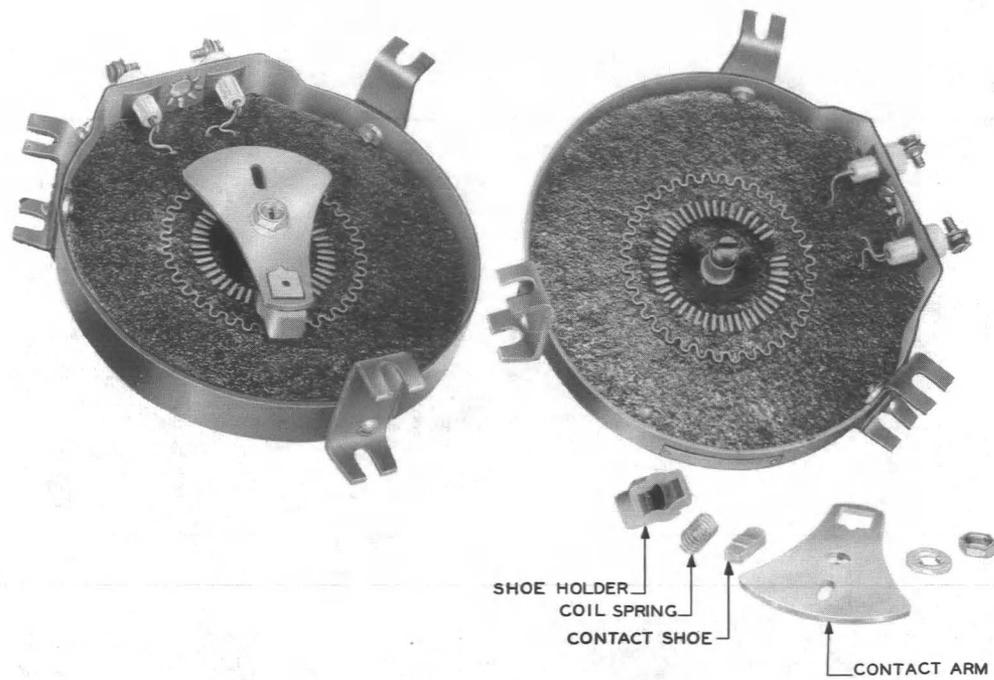

Fig. 4 - KS-15672 Rheostat — Balanced Contact Shoe Construction
1.09 Balanced Contact Shoe Construction: The KS-15672 rheostat shown in Fig. 4 has this type of shoe. In this rheostat the contact shoe, mounted in the contact arm, is held against the contact buttons and collector ring by a spring acting between the shoe and arm. Other rheostats using this type of shoe are the KS-5084, KS-5125-01, and KS-5711 faceplate rheostats. In the latter rheostats, the contact shoe engages only the contact buttons. A separate contact is provided for the collector ring.